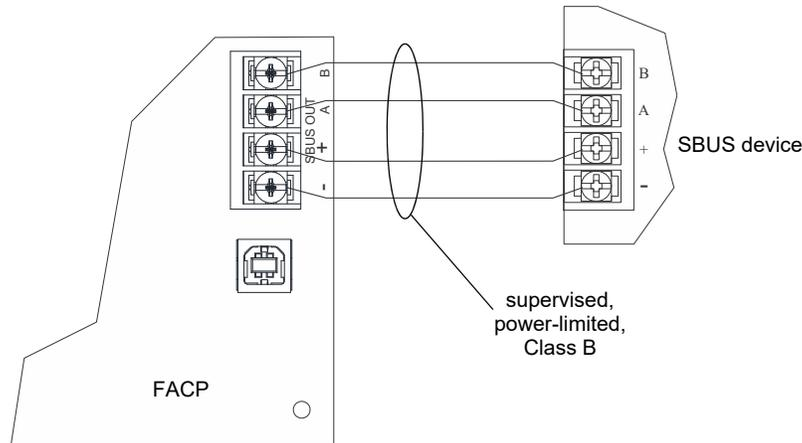

Figure 4.10 SBUS Class B Wiring
Figure 4.10 illustrates SBUS, Class B configuration.
3. Connect the 5860 to the panel (see Figure 4.10).
4. After the annunciator wiring to the panel has been completed (refer to Figure 4.10), replace the electronic assembly in the back box. Place the bezel over the back box and tighten the set screws on the bezel.